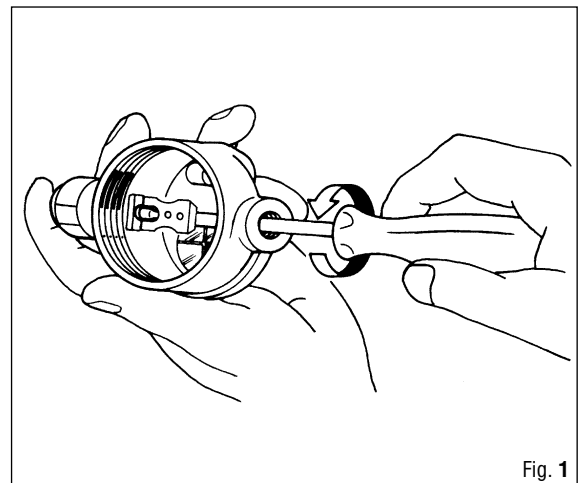

Fig. 1
10. Unscrew the seat connector (21) from the case assembly connector (28) using a 5-mm hex wrench (B-4).
11. Remove the O-ring (27) from the seat connector (21).
**NOTE** REMOVE THE CONNECTOR BUSHING (165) ONLY IN CASE OF NEED, WITH THE AID OF A SMALL FLAT BLADE SCREWDRIVER NECESSARY.
12. Remove the safety clip (63).
13. Unscrew the cover (101).
14. Remove the diaphragm retaining ring (78), the diaphragm (36) and the spacer ring (90) from the 2nd stage case (32).
15. Unscrew the case plug (64).
16. Remove the O-Ring (72) from the case plug.
17. Exerting a slight pressure, push the adjuster connector (87) inward and remove the O-ring (83) from its seat in the 2nd stage case (32).
18. Using the special wrench (B-12), back off the adjusting nut (33) from the poppet stem (30), removing the demand lever (35), the washer (34) and the spring (31) (Fig. 1).